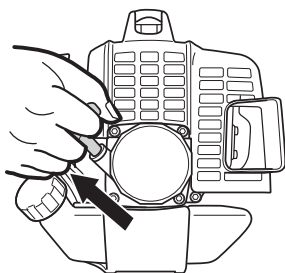

Fig. 11
- (4) Pull recoil starter briskly, taking care to keep the handle in your grasp and not allowing it to snap back. (Fig. 11)
(6) Pull recoil starter briskly again. (Fig. 11)